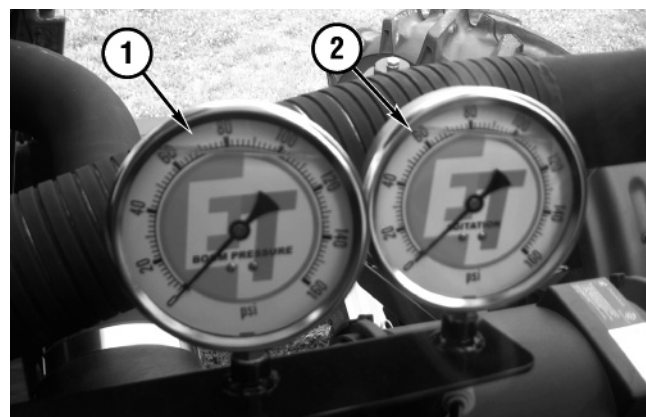

Figure 4-32
The agitation (**Figure 4-32, (2)**) and boom (**Figure 4-32, (1)**) pressure gauges are mounted outside at the lower right of the cab.